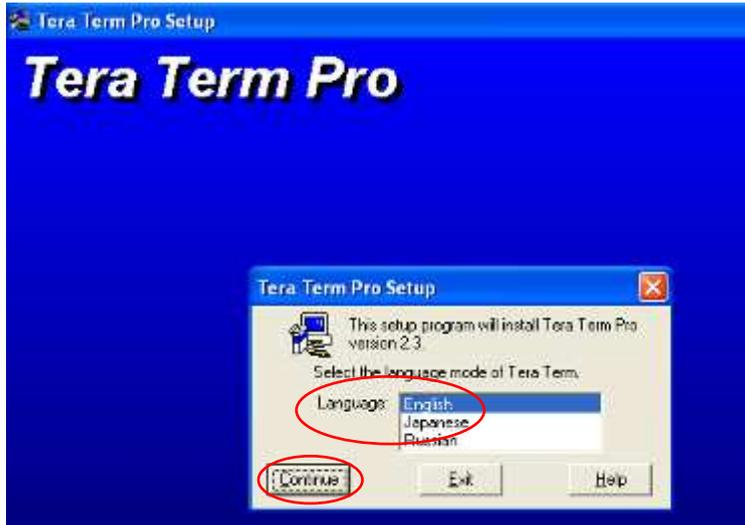

Figure 98:
2. Run the Setup.exe file. TSelect your language and press 'Continue' (Figure 98).